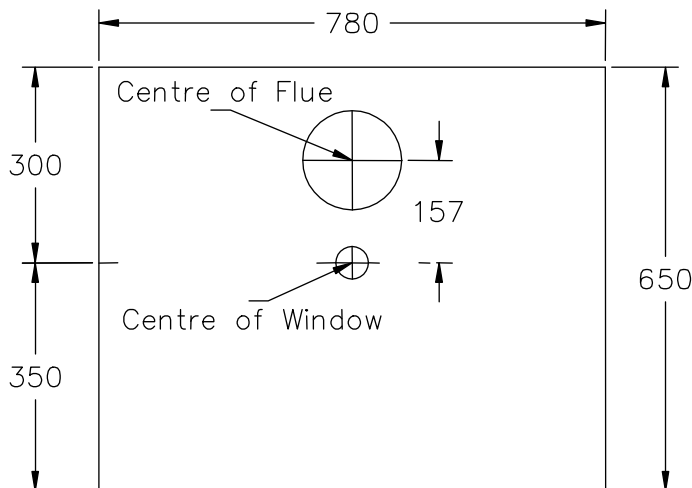

Figure 5
- 2 Select a position for the appliance and the height required from the centre of the glass panel to the floor. Cut a hole in the inner leaf of the cavity wall to the dimensions shown in Figure 5. A lintel may be required to support the masonry over the opening .Any cavity wall insulation should be held back away from the appliance. Drill a 152mm diameter hole in the outer leaf of the cavity wall for the flue 157mm above the position of the centre of the glass panel. Ensure that the centre of the flue is at least 700mm above finished floor level.